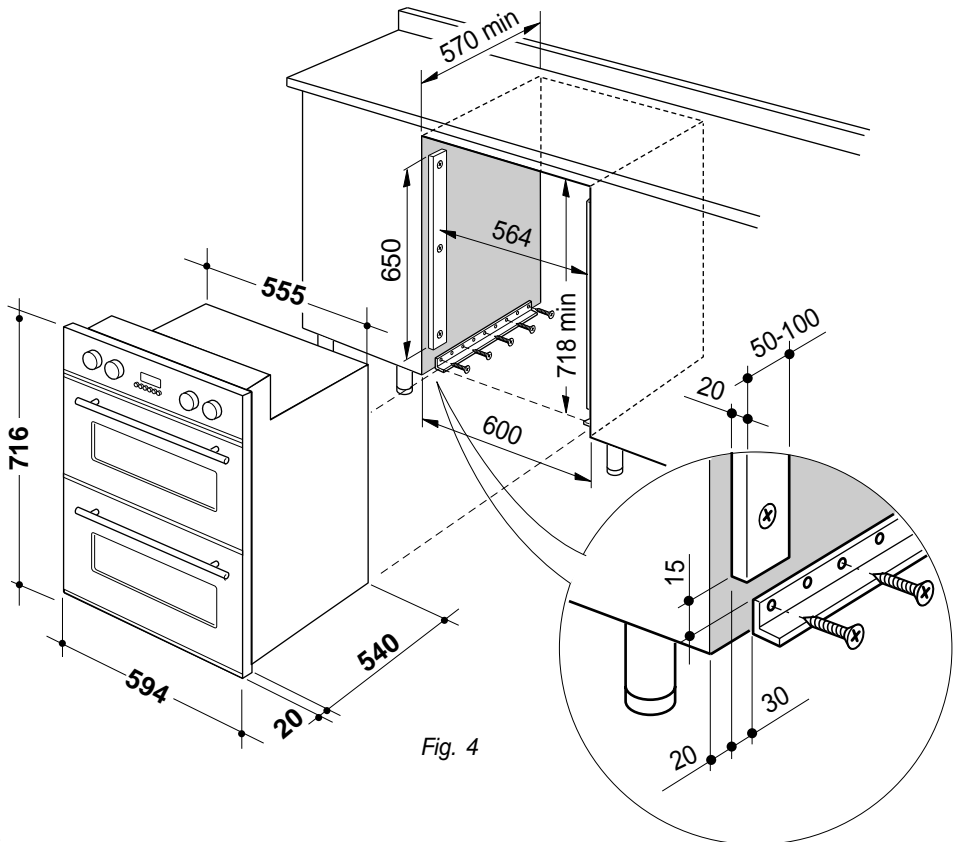

Fig. 4
The unit should have an aperture according to the measurements as detailed in Fig. 4.
- mount the 2 metal supports "B", supplied with the appliance, as indicated in Fig. 4;
- mount the 2 wood uprights "A" to the cabinet walls as indicated in Fig. 4;